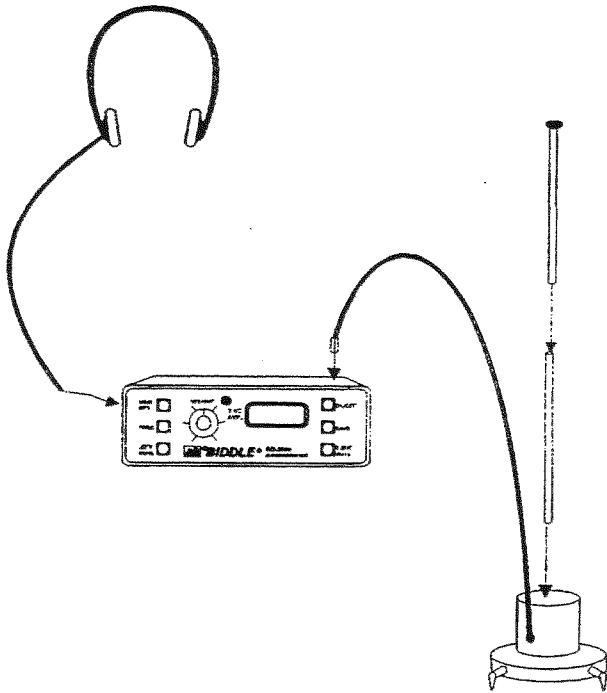

Figure 2: Assemble and Connect One Pickup
2. Assemble the SD-3000 as shown in Figure 2.